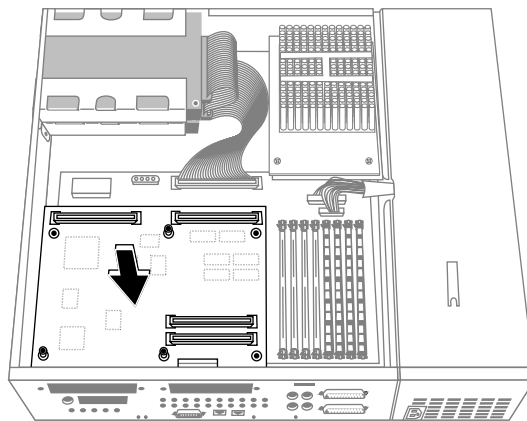

Figure 16 Connecting the graphics board to the system board
3. Connect the graphics board to the system board, as shown in Figure 16.